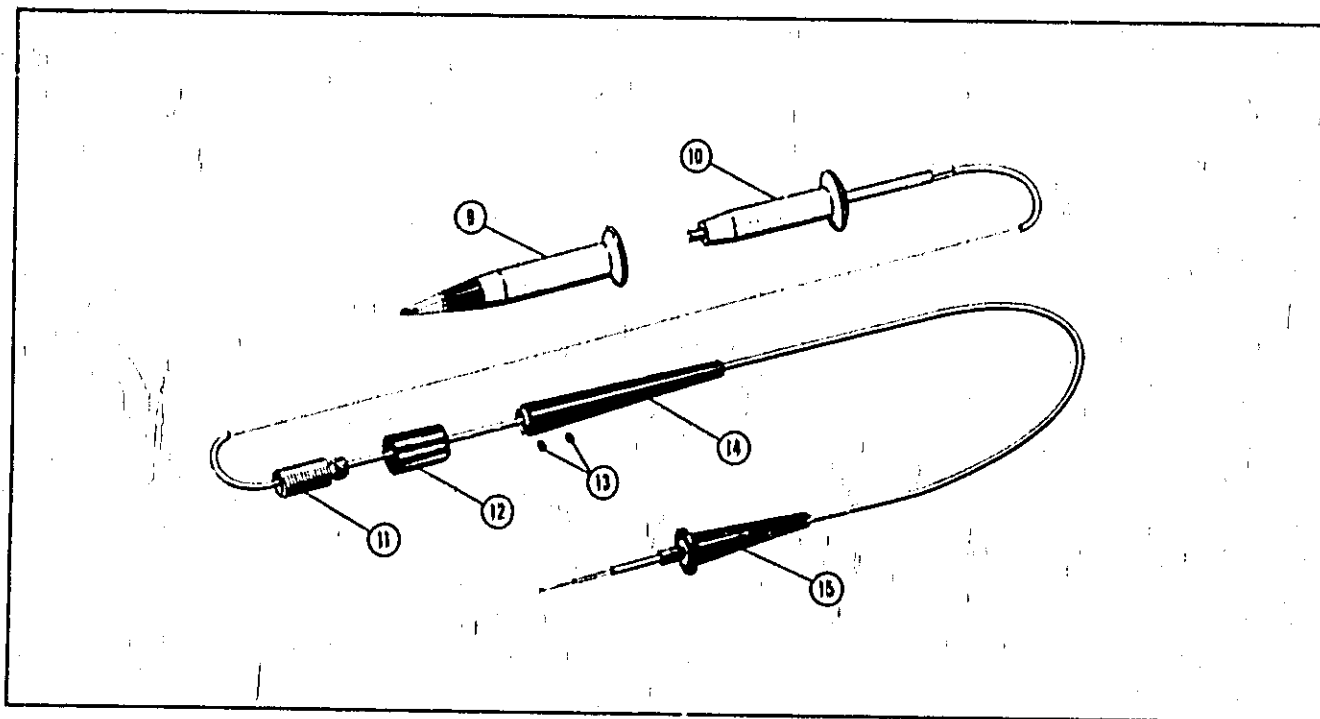

Figure 2. Voltage Probe Assembly, -hp- Part No.'s 00412-62101, 00412-62104, and 412A-21G
-hp- Part No. 00412-62101, 00412-62104, and 412A-21G (see Figure 2).